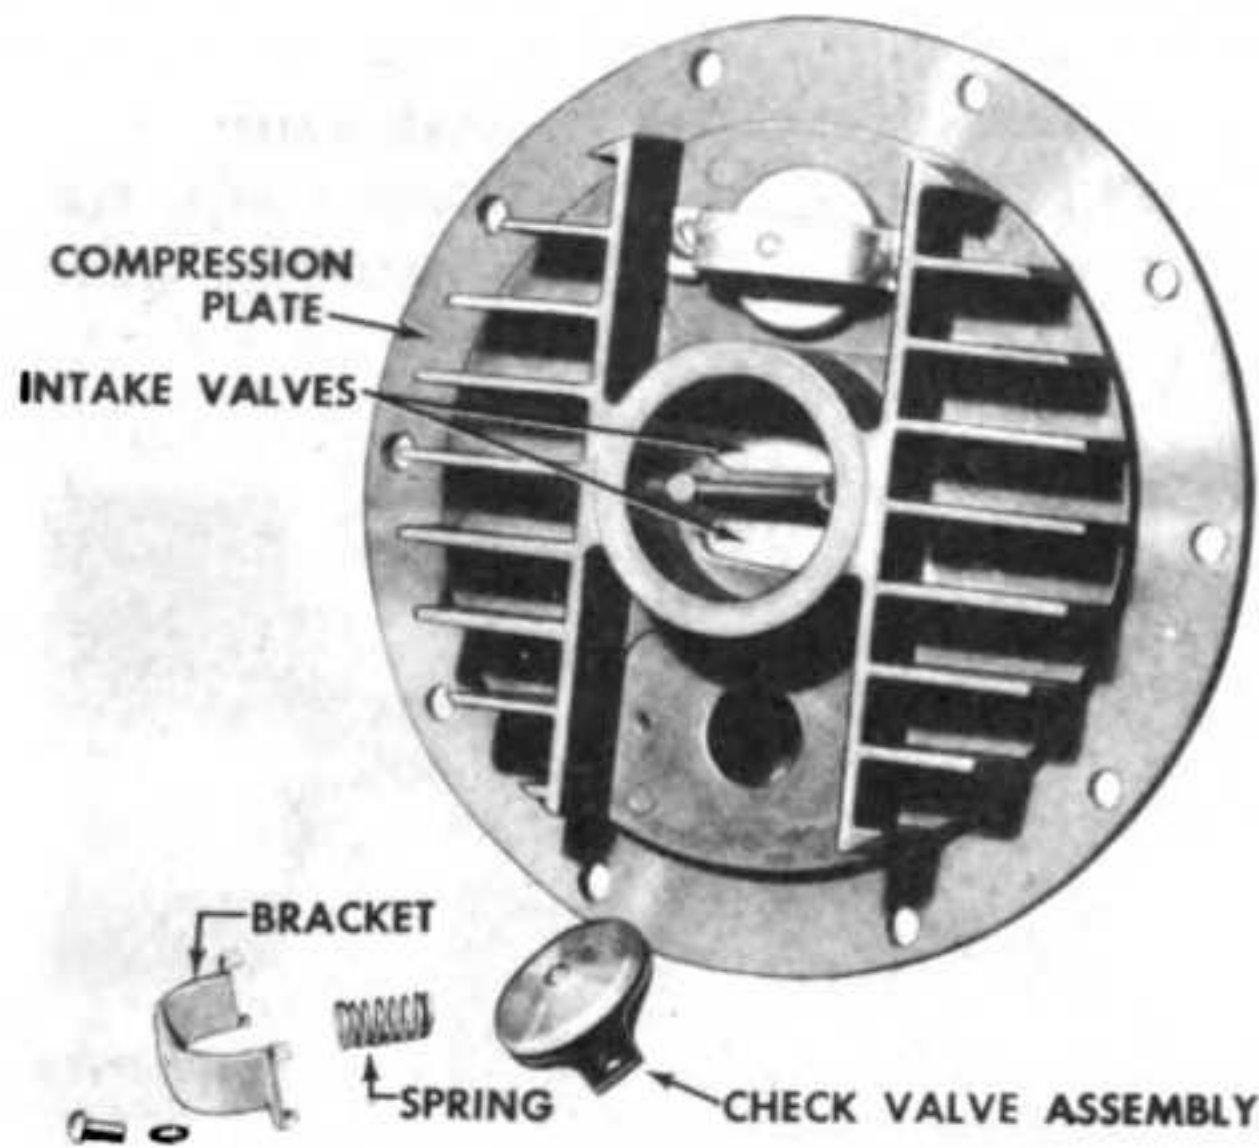

Figure 27—Check Valve Removed
- (4) Remove the screws and lockwashers attaching check valve assembly brackets, freeing check valve assemblies and springs. (See figure 27.)